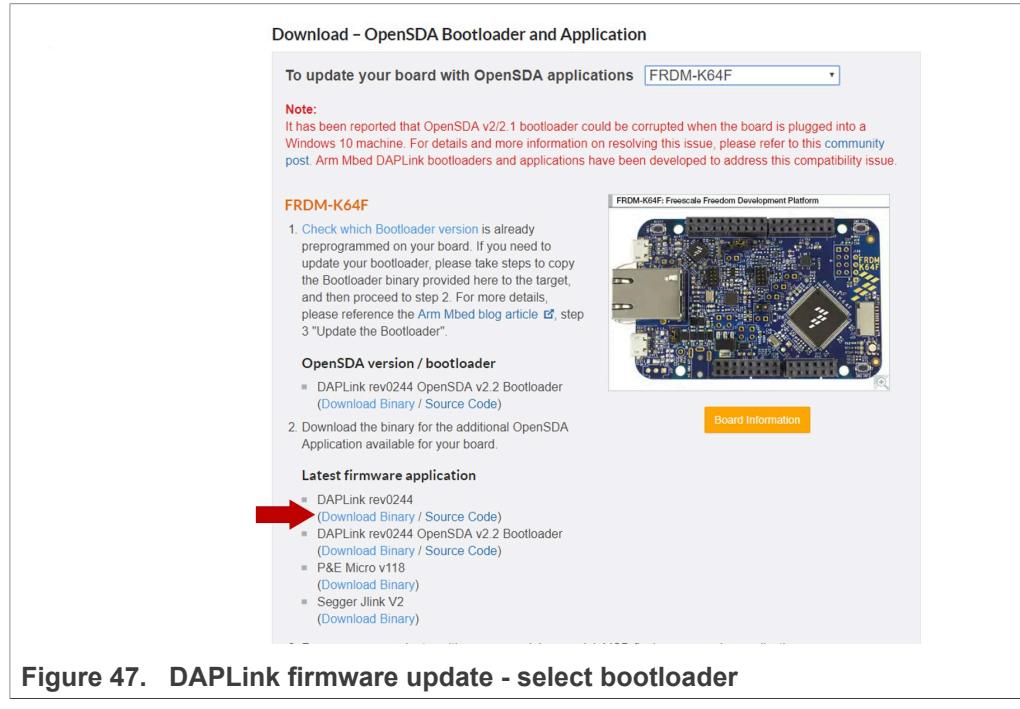

Figure 47. DAPLink firmware update - select bootloader
3. Download the latest DAPLink firmware version as shown in Figure 47:
**Note:** In case the device does not show up in your Device Manager, please download the latest bootloader version, as shown in Figure 47, or check / exchange the USB cables used.